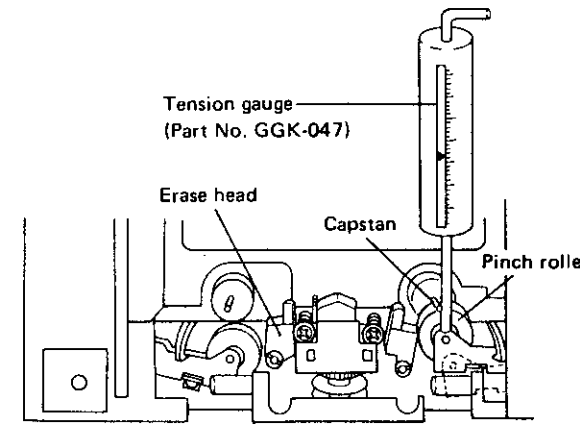

Fig. 12-1 Pinch roller pressure adjustment
2. Using a tension gauge as shown in Fig. 12-1, gently press against the pinch roller arm. The tension gauge reading should lie between 250g and 400g at the moment that the pinch roller is separated from the capstan, and the capstan stops rotating.